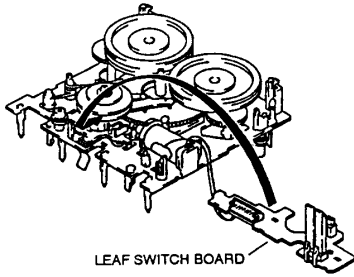

Fig. 9
- Reinstall the leaf switch board. Route the lead wire of the plunger so that it does not touch the moving part (fig. 9).